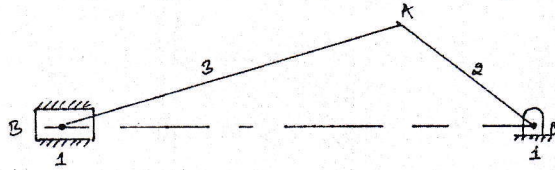

Fig. Q4 (c)
c. In a slider crank mechanism shown in Fig. Q4 (c) the crank  $OA = 300$  mm and connecting rod  $AB = 1200$  mm the crank  $OA$  is turned  $30^\circ$  from inner dead centre. Locate all the instantaneous centres. If the crank rotates at 15 rad/sec clockwise, find i) velocity of slider B and ii) Angular velocity of connecting rod AB. (10 Marks)